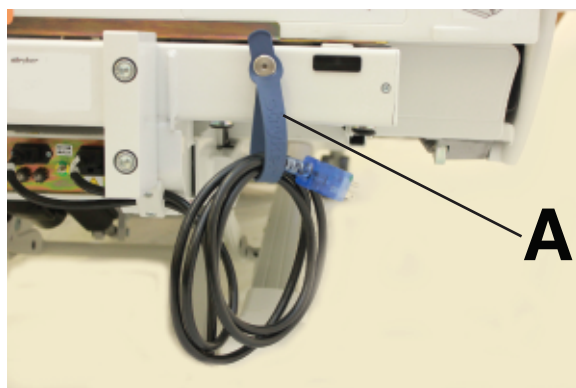

Figure 5 – Storing the power cord
To store the power cord and auxiliary cord, wrap the cords and secure them with the cord wrap (A) underneath the head end of the product (Figure 5).